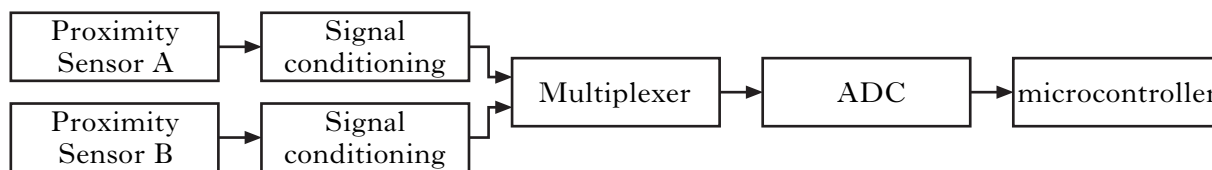

Figure Q10(a)
10. A microcontroller-based reversing aid emits an audible warning as a car reverses towards an obstruction. Figure Q10(a) shows a block diagram of the reversing aid.